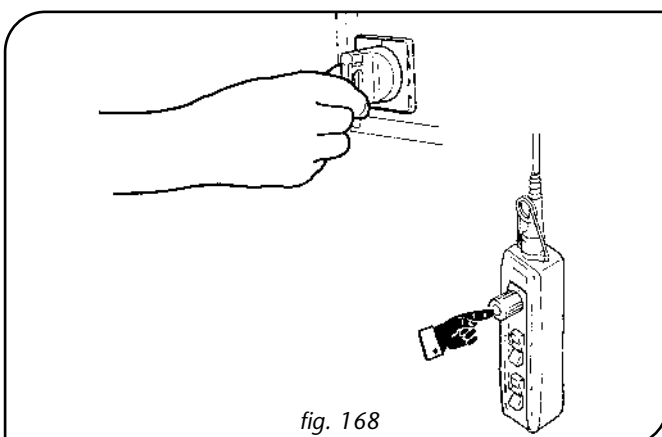

fig. 168
- Remove the live current to the trolley pressing the emergency stop button -1-; put the lever of the disconnecting switch in the "O" position, reach the working zone safely, bringing to a height the push-button panel to prevent it being activated from the ground (fig. 168).